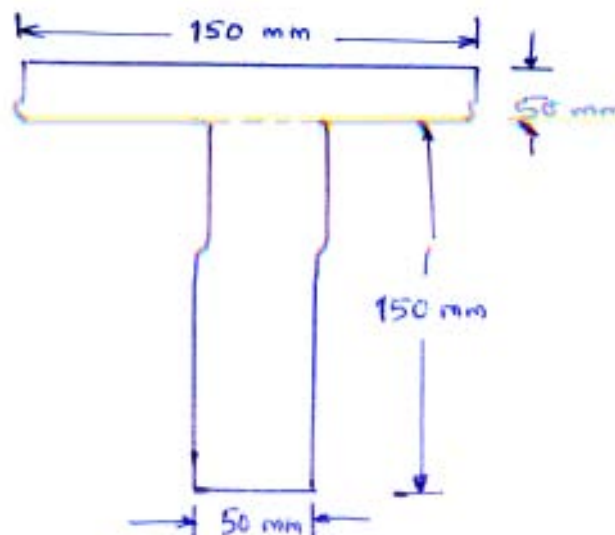

Figure 1
b) Find the M.I. of a T-section shown in figure 1 about X-X axis passing through CG of the section.
- b) Two wooden planks 150 mm×50 mm each are connected to form a T-section of a beam (Refer Figure 1). If a moment of 3.4 kN-m is applied around the horizontal neutral axis, including tension below the neutral axis, find the stresses at the extreme fibers of the cross section. Also calculate the total tensile force on the cross section. 8